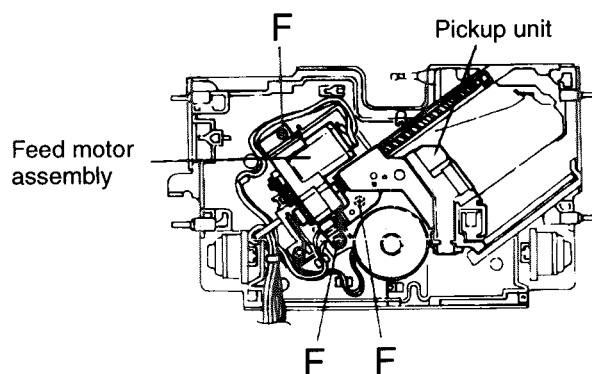

Fig.19
6. Remove the three screws F retaining the feed motor assembly and take out this motor assembly (See Fig.19).